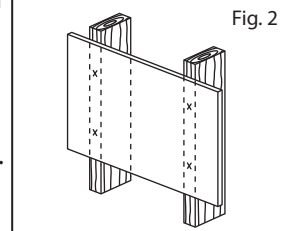

Fig. 2
- 4** While another person holds the mount in place, mark four locations (two per stud) for securing the mount to the wall (see Fig. 2).